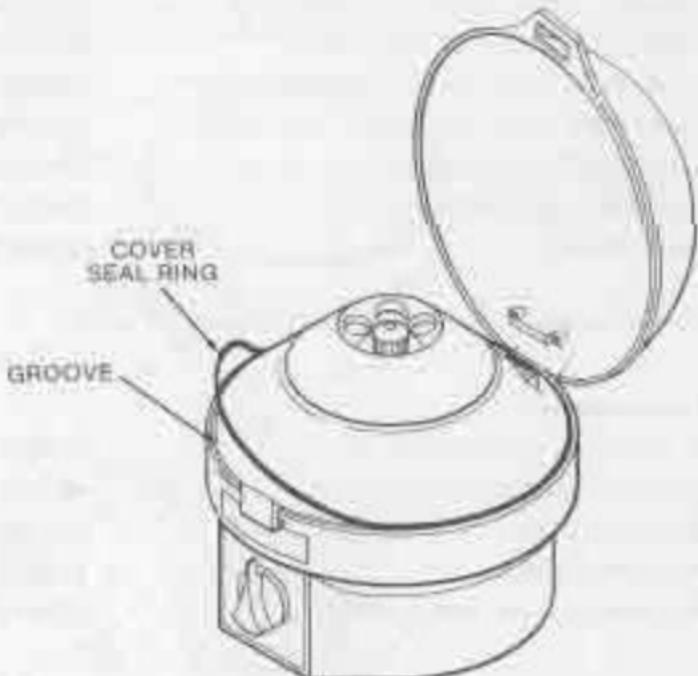

Figure 5-1. Cover Seal Ring
- a. Remove worn cover seal ring by peeling it from groove of housing (Figure 5-1).
- d. Orient new ring as shown in Figure 5-1, and press firmly around circumference of groove. Make sure that open space between ends of ring is at rear of centrifuge.